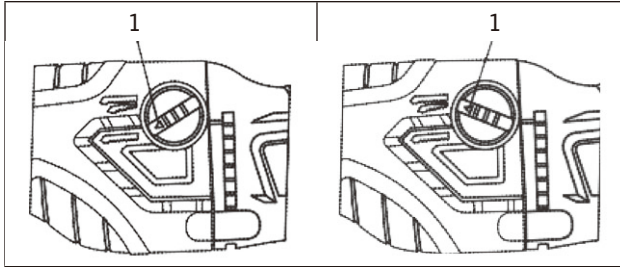

FIG. 3
To operate the saw in conventional cutting mode, rotate the orbital control knob (1) counter clockwise (Fig. 3). To operate the saw in orbital cutting mode, rotate the orbital control knob clockwise (2).
4. Set the orbital control knob to either conventional or orbital cutting to produce the desired cutting effect (Fig. 3).
3. Set the orbital control knob to conventional cutting (Fig. 3).
Set the orbital control knob to conventional cutting (Fig. 3).